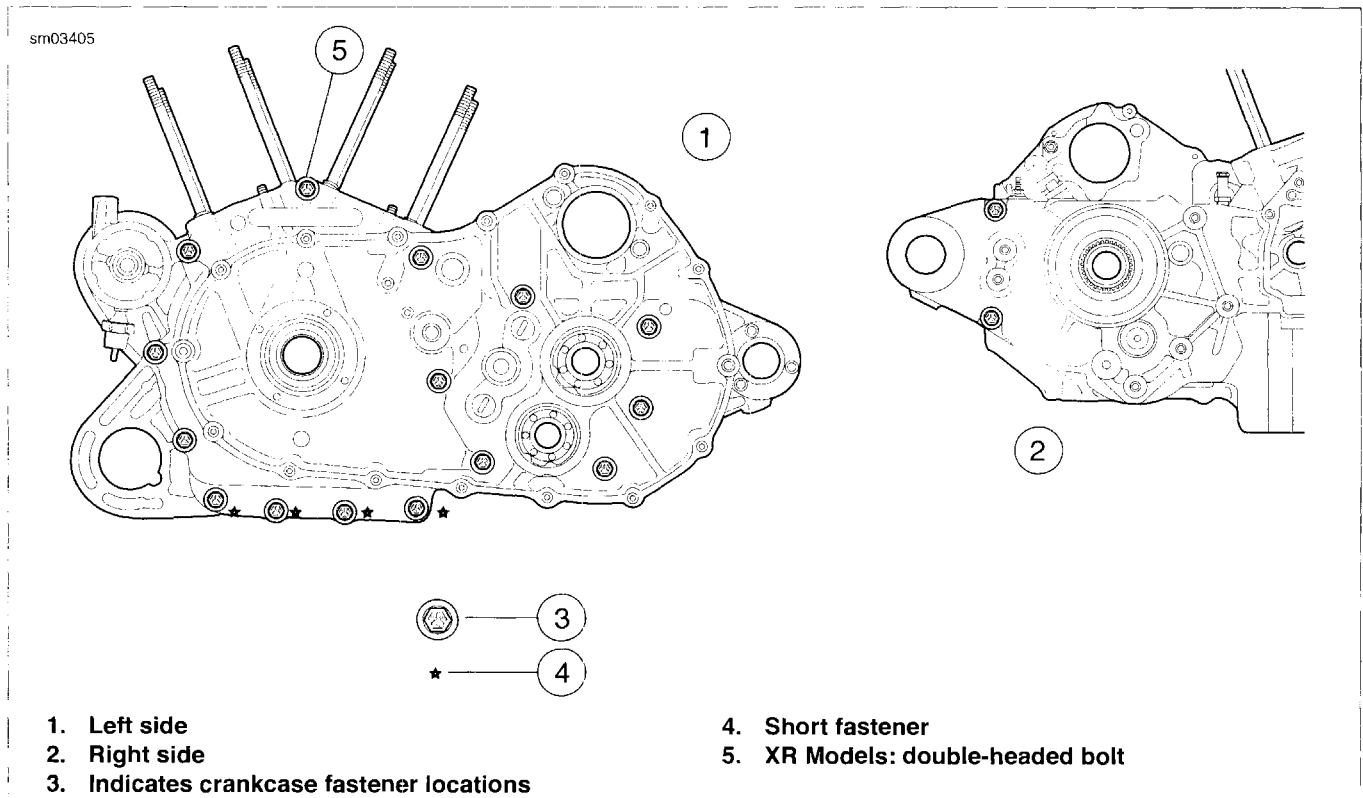

Figure 3-74. Crankcase Fasteners
See Figure 3-74. Crankcase assembly has 17 fasteners; 15 inserted from left side and two inserted from right side.
- See Figure 3-74. Remove 15 crankcase fasteners (eleven long and four short) from left side of crankcase assembly.